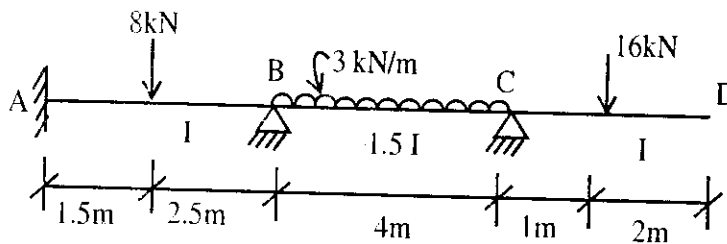

Fig.2
- (b) Solve the continuous beam using slope – deflection method (Fig 2) and draw B M. D. [12]